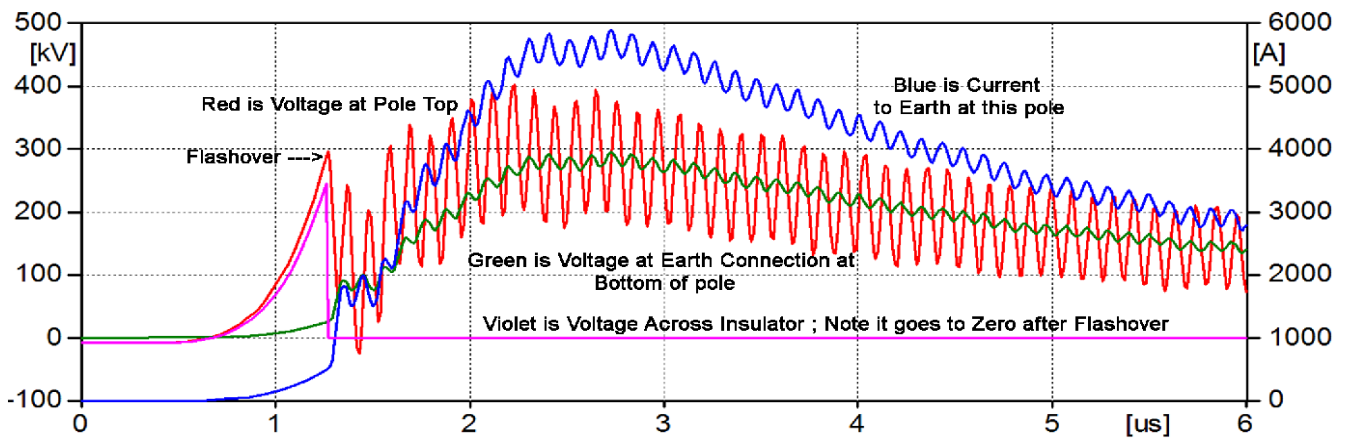

Figure 5: Voltage at various points on a distribution pole during a lightning event
earth levels, however this is not true. Figure 5 shows that after the flashover, the voltage at the top of the pole continues to rise. This is due to the fact that the pole down conductor has resistance at its interface to earth. The voltage level at the top of a pole during a lightning strike is a strong function of the current of the stroke and the pole ground resistance. In this case earth resistance is 50 ohms and the current down the pole is just under 6000 amps. Simple ohms law tells us that the
*Significant Oscillations Peak Value taken see Fig 5